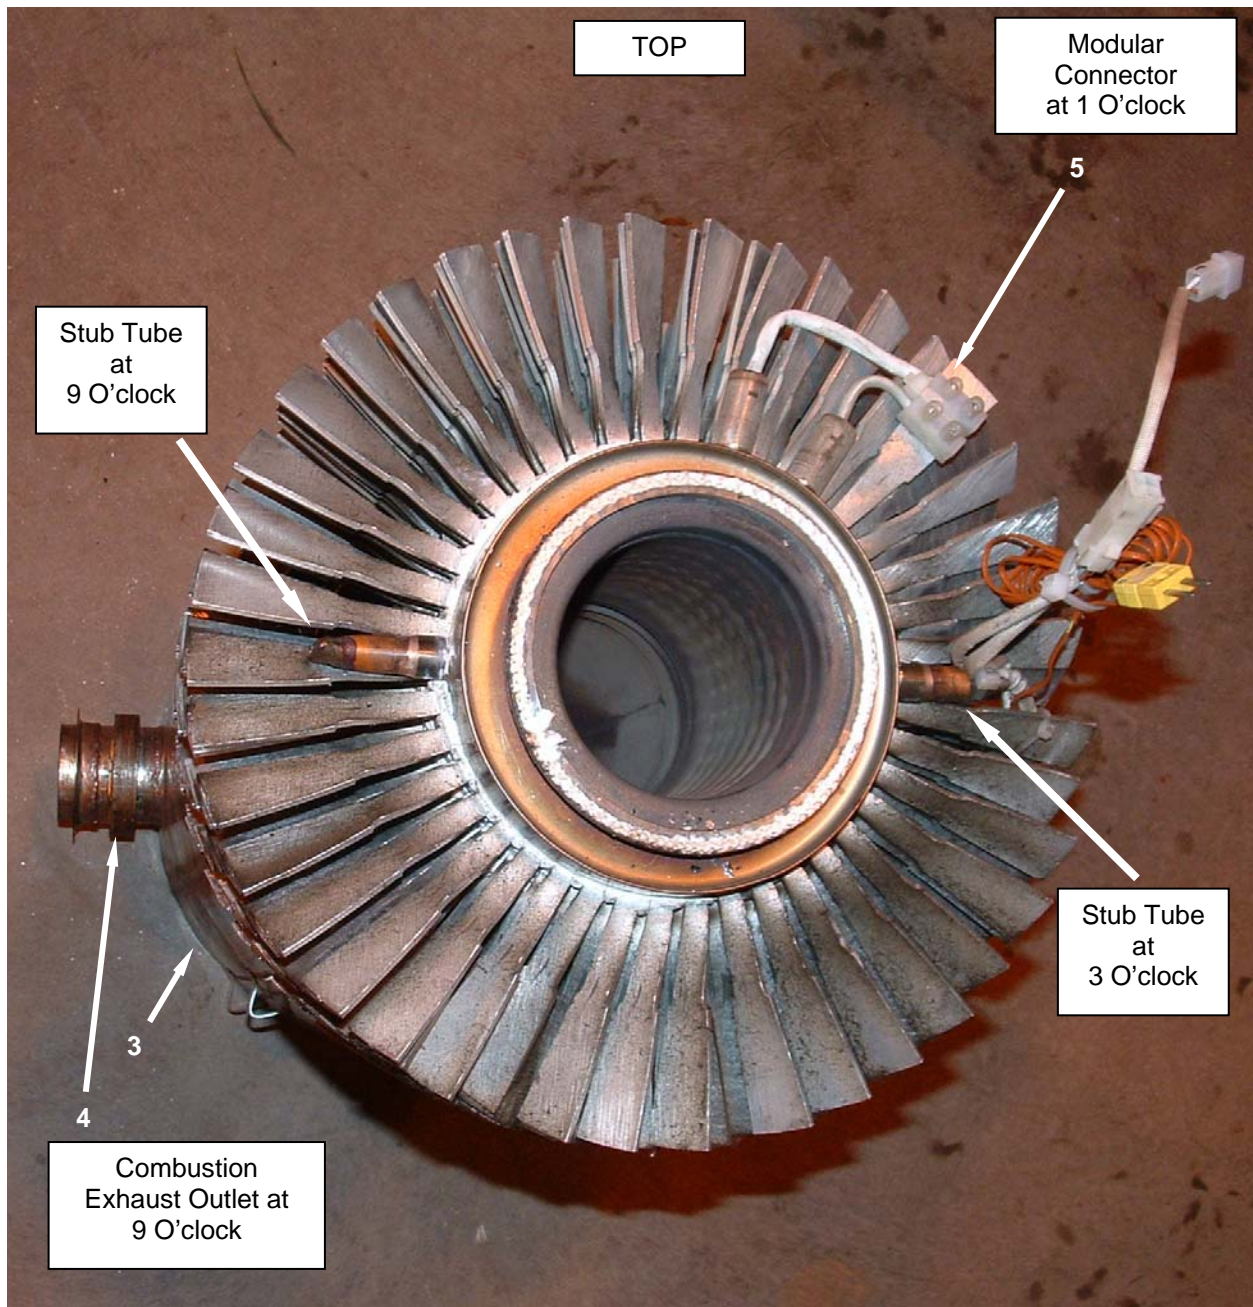

Figure 12. Install the Thermoelectric Generator – Heat Exchanger/TEG Alignment.
Refer to Figure 12 for the correct alignment of the TEG. Take note of the relative positions of the TEG modular electrical connections (at 1 o'clock), the stub tubes (at 3 o'clock and 9 o'clock respectively) and the combustion exhaust outlet (at 9 o'clock).
2. While positioning the combustion exhaust outlet (**Figure 12, Item 4**) of the heat exchanger (**Figure 12, Item 3**) at the 9 o'clock position, position the modular connector (**Figure 12, Item 5**) at the 1 o'clock position. Align the flanges of the TEG (**Figure 12, Item 1**) and the heat exchanger.